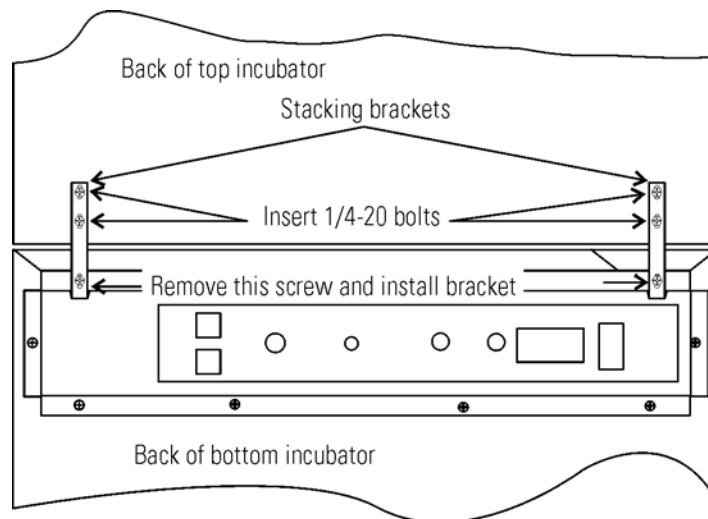

Figure 1-8. Two Screws From Control Panel Back
6. Remove and save the two screws from the back of the control panel on the bottom unit as shown in Figure 1-8.